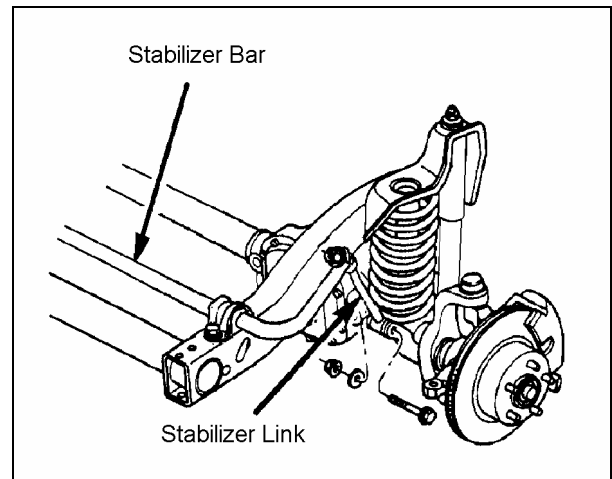

Figure 2
5. ☐ Position a hydraulic jack under the front axle for support. Remove the stabilizer link lower nut and bolt from both sides of the front axle. See Figure. 2